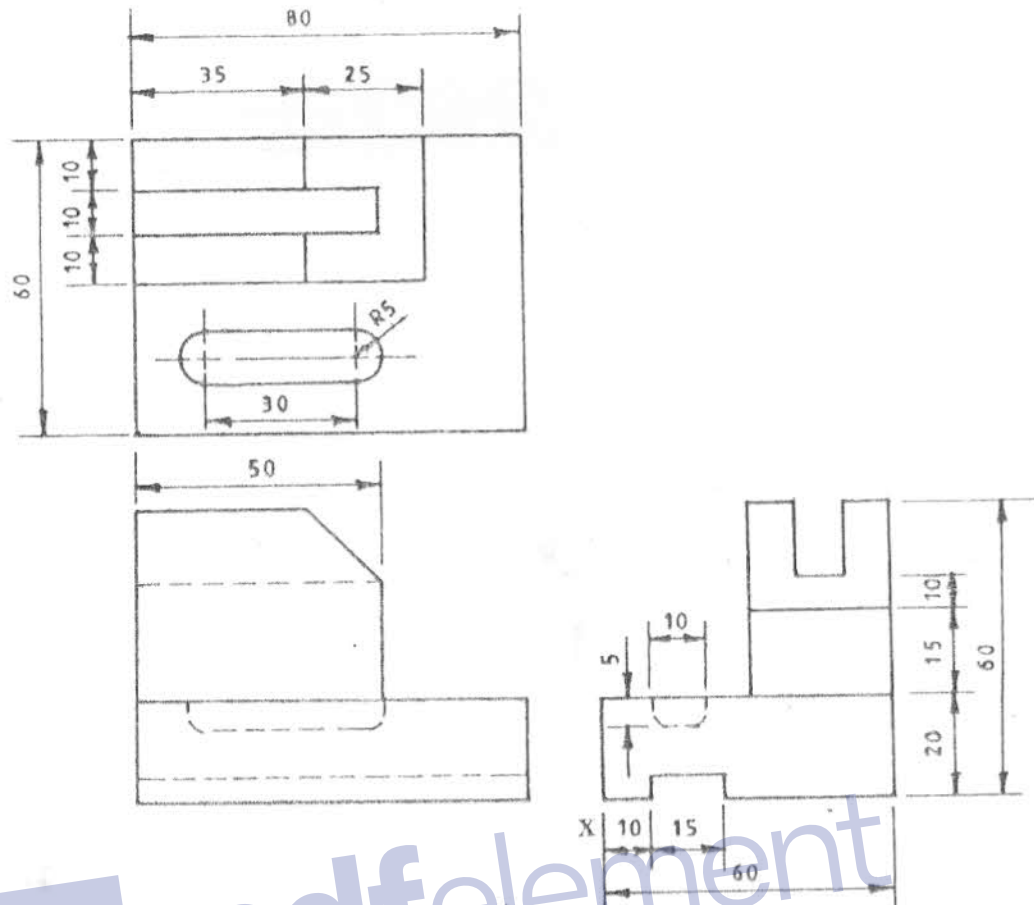

Fig. 5
8. Figure 5 shows two views of a bracket drawn in third angle projection. Draw full size the bracket in isometric projection taking corner X as the lowest point.